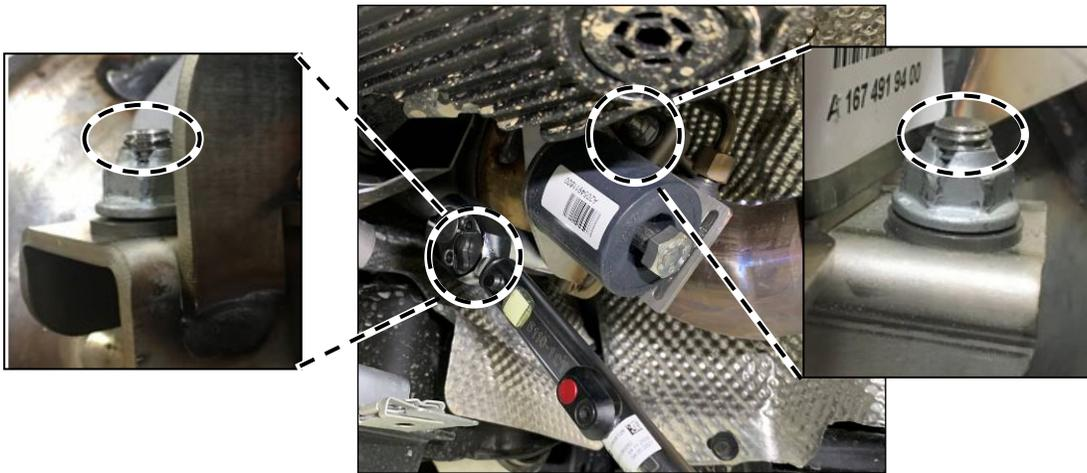

Figure 10
3.6.3.2. The threaded ends of the U-bolt must have the same length/number of threads protruding from the back side of the nuts before torquing to specification (Figure 10).